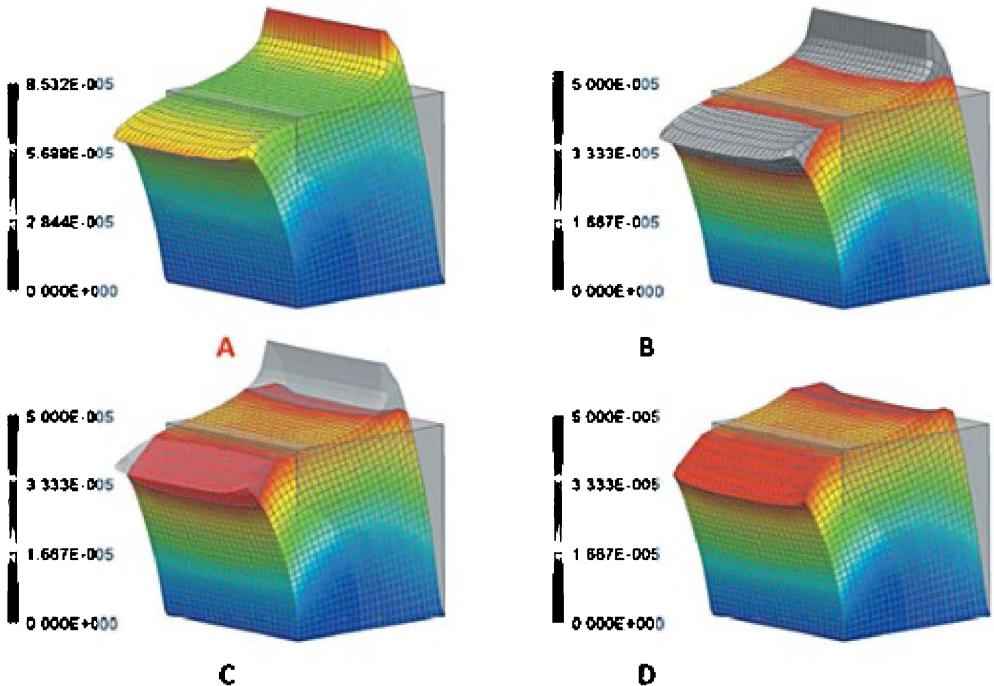

Figure 5.34. Displaying elements whose results fall outside the palette range
- Select *Shared* to specify a color for the relevant areas (Figure 5.34, B).
- Select *Translucent* to display the areas with transparency (Figure 5.34, C).
- Select *Clipped* to hide the areas altogether (Figure 5.34, D).